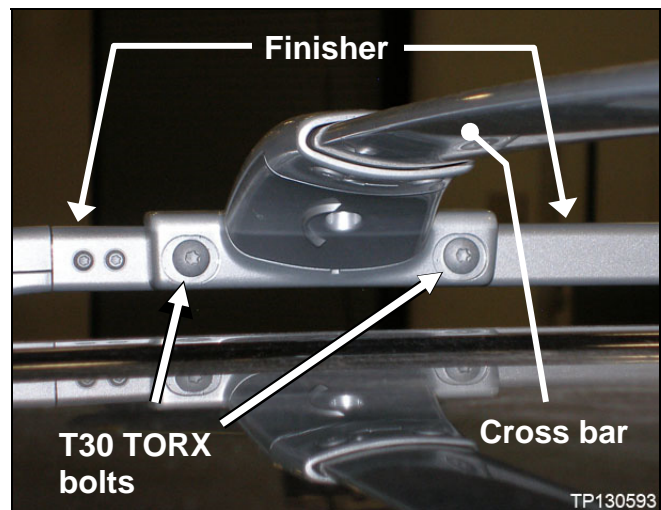

Figure 2
1. If equipped with cross bars: Unbolt the eight (8) TORX bolts, and then carefully remove the cross bars (see Figure 2).